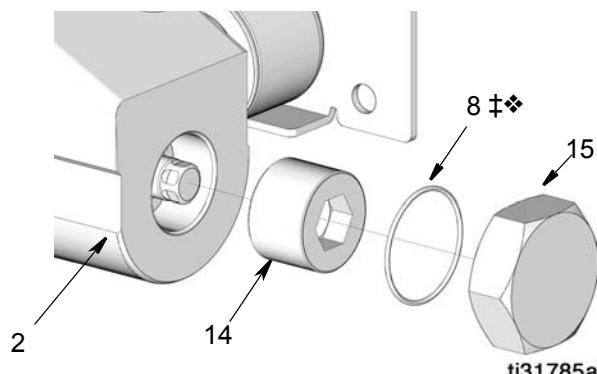

FIG. 24
21. Install nut (14) in pump base (2). Torque to 100 to 105 ft.-lbs (135.6 to 142.4 N•m) (FIG. 24).
22. Lubricate o-ring (8❖). Install o-ring and pump end nut (15) in pump base (FIG. 24). Torque end nut to 45 to 50 ft.-lbs (61.01 to 67.79 N•m).